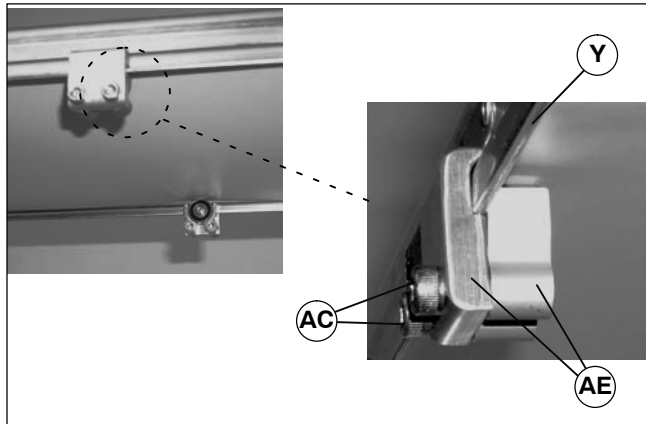

Figure 14
- Attach return roller assembly (AE of Figure 14) on each side of conveyor (Y). Tighten screws (AC) to 80 in-lb (9 Nm).